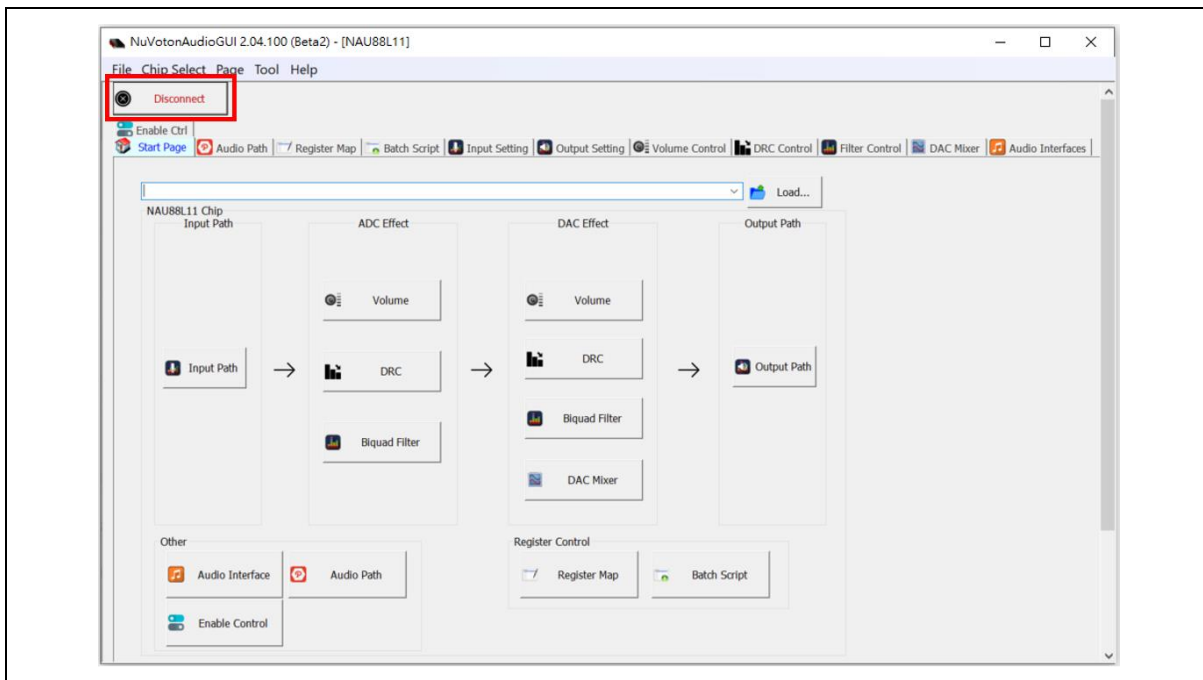

Figure 3-7 NuvotonAudioGUI Operating Step (4)
- If the red [Disconnected] appears on the upper left corner of the NuvotonAudioGUI window, as shown in Figure 3-7, check if the hardware configuration is correct.